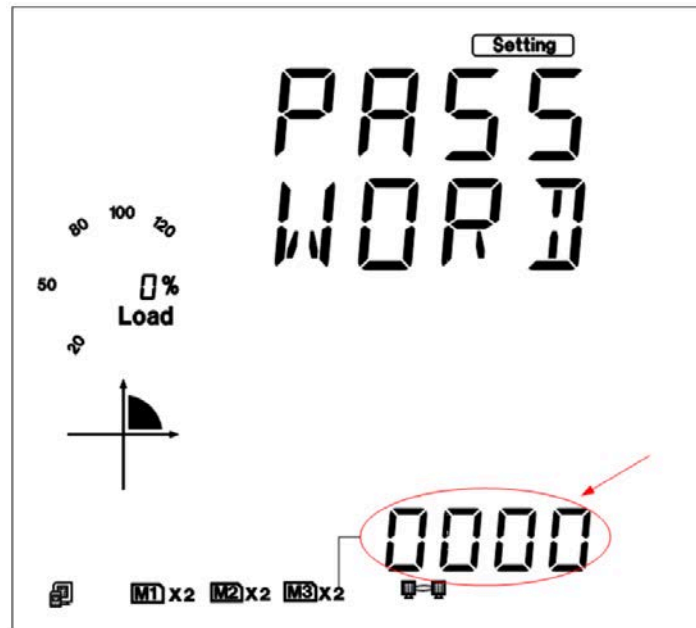

Fig 5-79
e). Set Subnet Mask in the third setting page, such as 255.255.255.0. Press "V/A" key to go to the setting page. Users may set the parameters in the area pointed out in Fig 5-79. The cursor starts at the first digit. After setting the Subnet Mask, press the "V/A" key to accept. Press the "P" key again to go to the fourth setting page for Gateway.